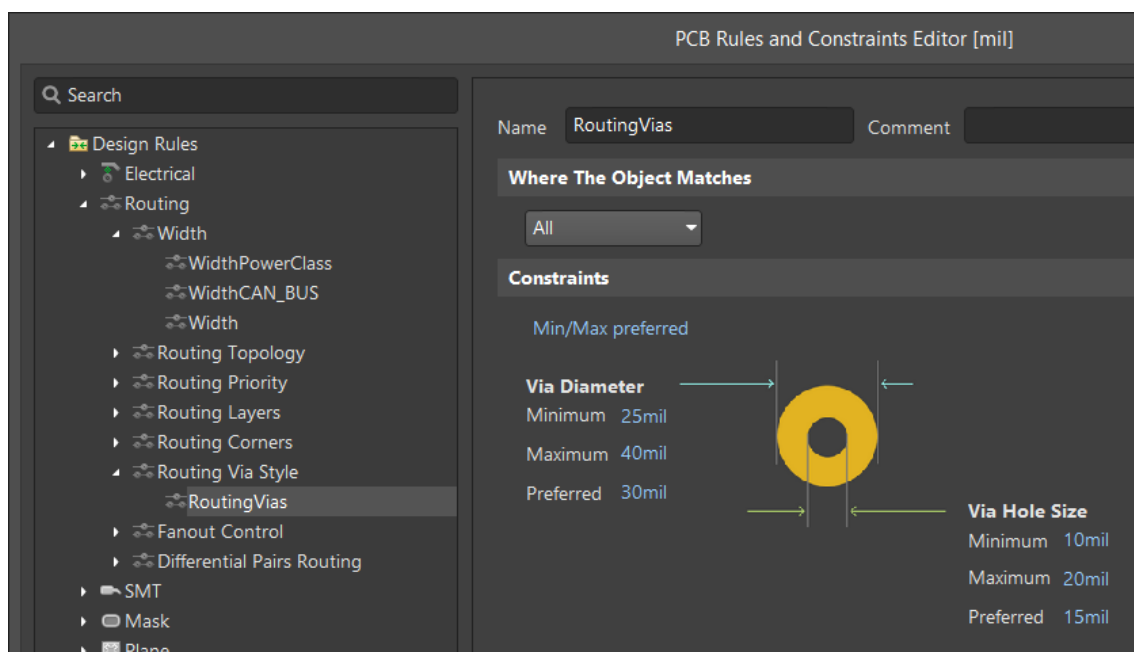

Figure 8. Changing the Routing Via Style design rule
- a) Select the rule and modify the *Via Diameter* and *Via Hole Size* values as shown in Figure 8. Note that the Maximum values are in the middle.